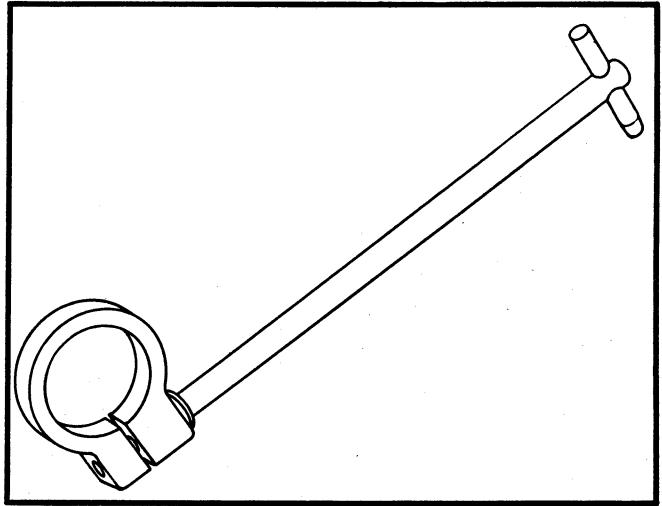

Figure 3. Focusing Adjustment Tool
the #1 lens left or right (either by hand or by use of the lens adjusting clamp tool #S-732-F-1 shown in Figure 3). Then switch on lamp #1 again and recheck the lens focus. (5) Repeat steps 3 and 4 until a sharp focus is obtained. (6) Switch off lamp #1 and switch on lamp #2. (NOTE: Do not make use of the control knob to achieve a sharp focus at this time.) (7) Repeat all steps as given above, using lamp #2. (8) The projector is now sharply focused.